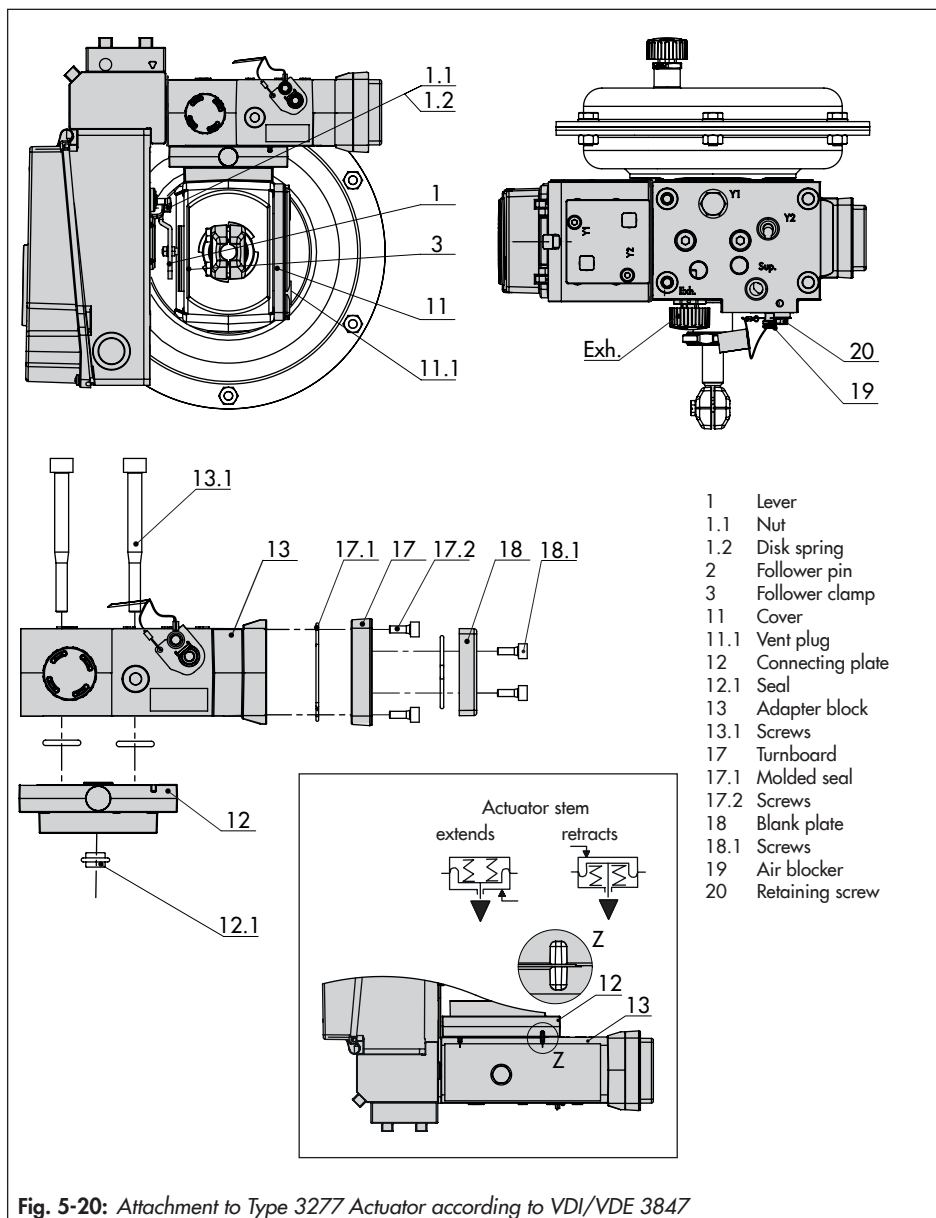

Fig. 5-20: Attachment to Type 3277 Actuator according to VDI/VDE 3847
→ See Fig. 5-20
11. Fasten the positioner to the adapter block (13) using the two fastening screws (6.3). Make sure the molded seal (6.2) is properly seated (see Fig. 5-20).
12. Mount cover (11) on the other side.